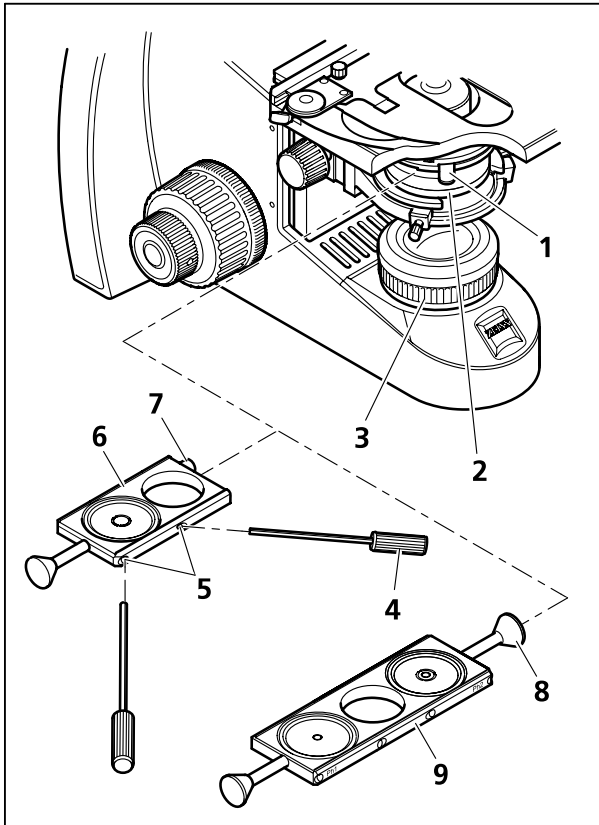
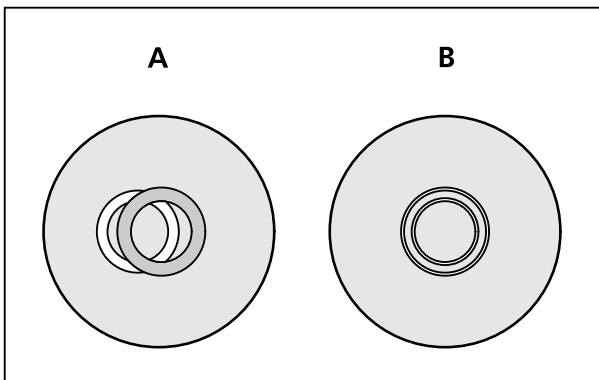

Fig. 22 Inserting the slider
Fig. 23 Centering the phase stop
- Open the luminous-field diaphragm (Fig. 22/3) on the stand and open the aperture diaphragm by means of the control lever (Fig. 22/1) on the Abbe condenser (Fig. 22/2).
- Insert the slider fitting the objective used, with one (Fig. 22/6) or two (Fig. 22/9) phase contrast positions (Ph).
- Slider Ph 1, Ph 2 or Ph 3 (Fig. 22/6): Remove the screw (Fig. 22/7). Push the slider from the left into the Abbe condenser and screw in the screw (Fig. 22/7) again.
- Slider Ph 1 / H / Ph 2 (Fig. 22/9): Unscrew the handle (Fig. 22/8) at the right side. Push the slider (Fig. 22/9) from the left into the Abbe condenser (the inscriptions Ph 1 and Ph 2 are readable upright and laterally correct from the front). Screw in the handle again.
- Check the centering of the phase stop according to the drawing in Fig. 23. To this end, remove one eyepiece and replace it by the diopter.
- Center the phase stop, if necessary, (Fig. 23/A) by turning the two adjusting screws of the slider (Fig. 22/5) by means of the two Allen keys SW 1.5 (Fig. 22/4) until the phase stop image corresponds to that shown in (Fig. 23/B).